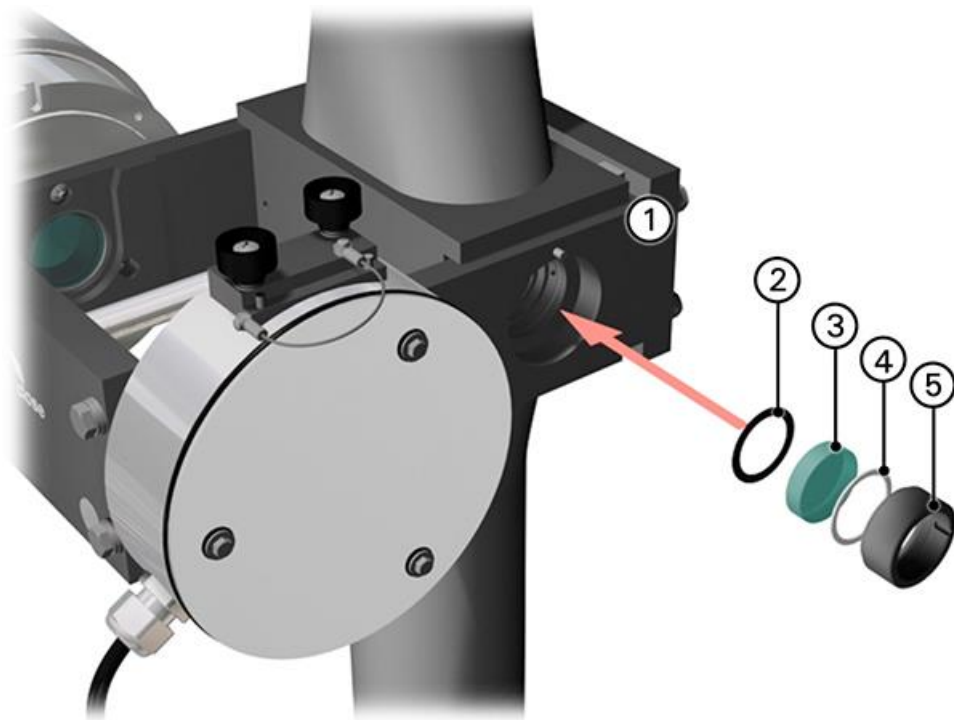

Figure 29: Cleaning the measuring cell windows, sliding measuring cell
4.	Remove the ring nut (Figure 29, pos. 5) using the face wrench.
5.	Remove the Teflon slide ring (Figure 29, pos. 4), measuring cell window (Figure 29, pos. 3) and the seal (Figure 29, pos. 2) from the bore.
7.	Position the seal (Figure 29, pos. 2) in the bore.
8.	Reposition the measuring cell window (Figure 29, pos. 3) in the bore.
9.	Position the Teflon slide ring (Figure 29, pos. 4) on the measuring cell window.
10.	<p>Screw in the ring nut (Figure 29, pos. 5) with the special wrench.</p> <hr/> <p>! Do not fasten too tightly, as the measuring cell windows can break.</p>